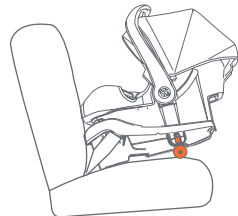

Fig. 55-3
- A rolled towel, folded towel or pool noodle may be placed at the back of the base for elevation (Fig. 55-3).